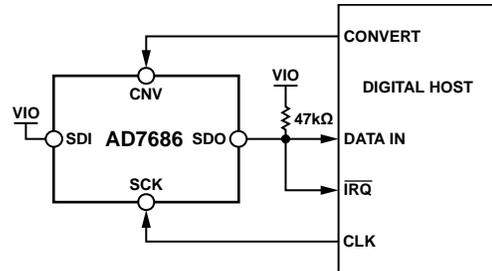
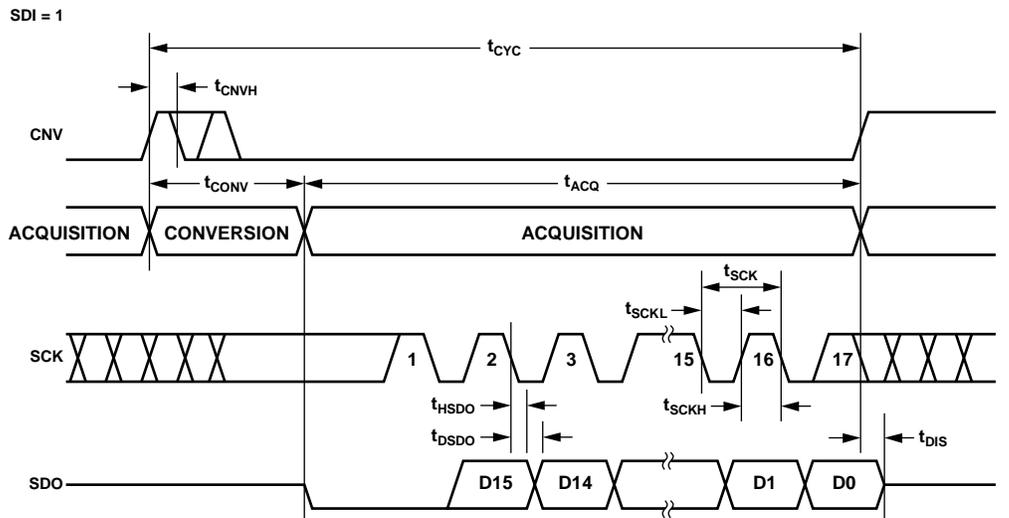
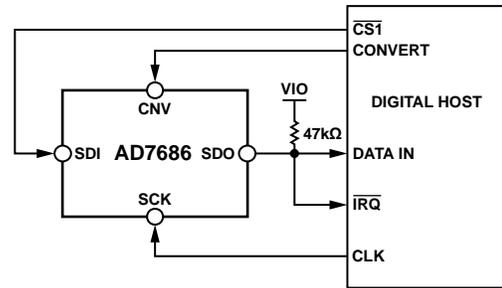
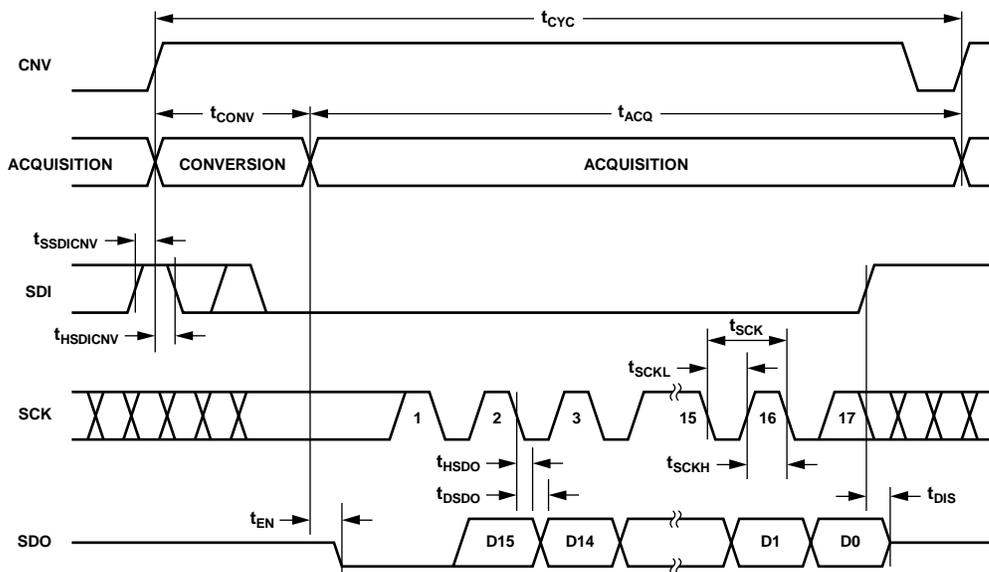

Figure 35. CS Mode 3-Wire with Busy Indicator Connection Diagram (SDI High)
Figure 36. CS Mode 3-Wire with Busy Indicator Serial Interface Timing (SDI High)
Figure 39. CS Mode 4-Wire with Busy Indicator Connection Diagram
Figure 40. CS Mode 4-Wire with Busy Indicator Serial Interface Timing
- In  $\overline{CS}$  mode, if CNV or SDI is low when the ADC conversion ends (see Figure 36 and Figure 40).
This mode is generally used when a single AD7686 is connected to an SPI-compatible digital host having an interrupt input. The connection diagram is shown in Figure 35, and the corresponding timing is provided in Figure 36.
This mode is usually used when a single AD7686 is connected to an SPI-compatible digital host, which has an interrupt input, and when it is desired to keep CNV, which is used to sample the analog input, independent of the signal used to select the data reading. This requirement is particularly important in applications where low jitter on CNV is desired. The connection diagram is shown in Figure 39, and the corresponding timing is provided in Figure 40.